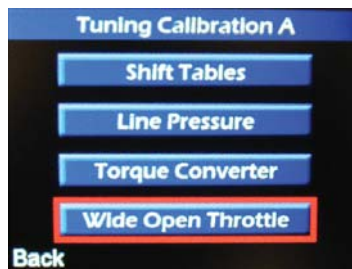

Figure 17
1. To alter, select “WIDE OPEN THROTTLE” using the “UP” and “DOWN” arrow buttons and press the “OK” button (Figure 17).